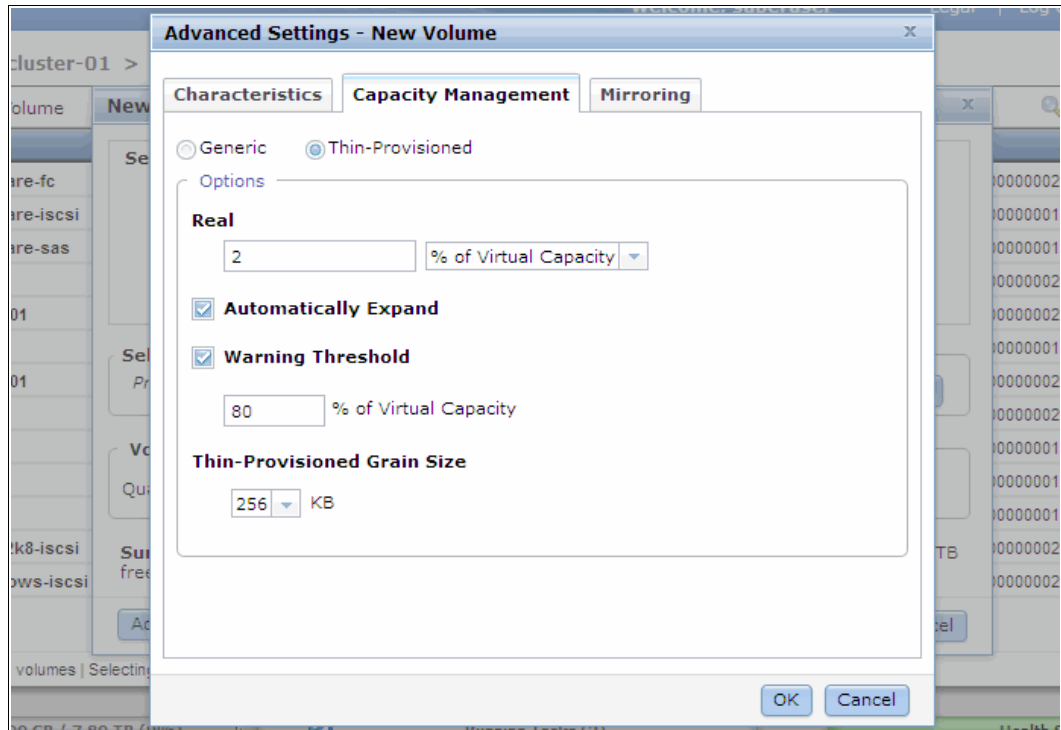
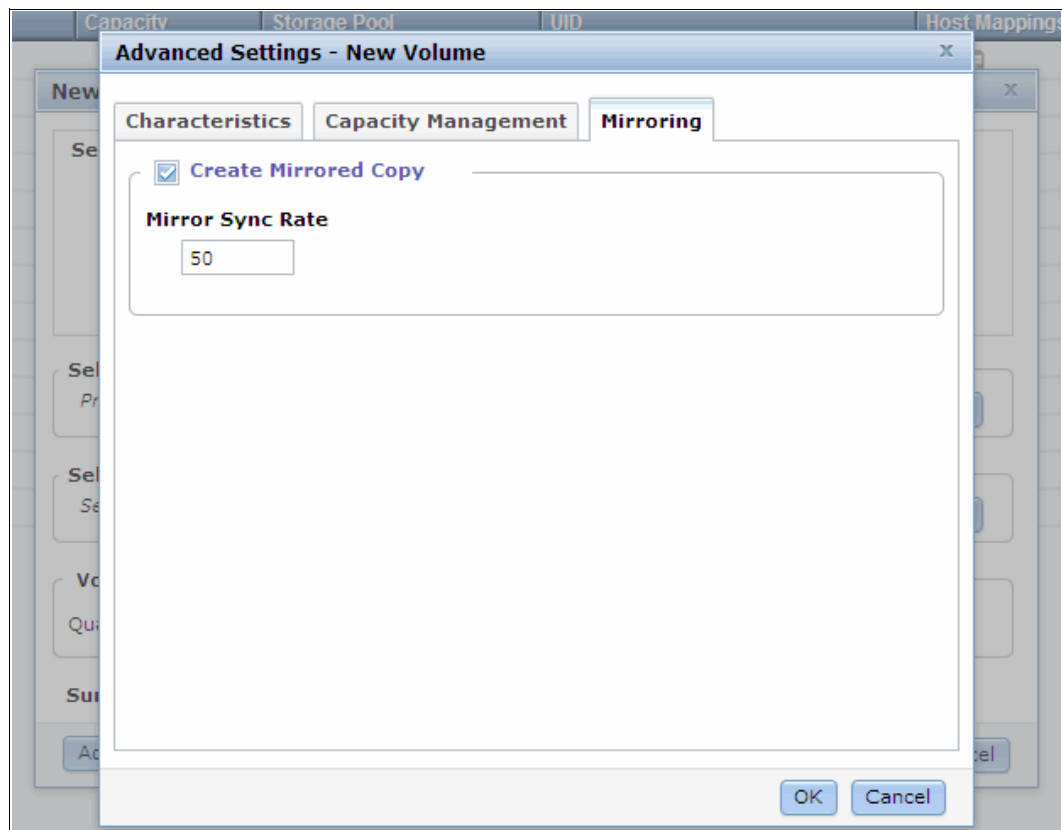

Figure 5-10 Advanced Settings: New Volume
Figure 5-15 Advanced mirroring features
Under the Volume Name field is a summary that shows that you are about to create a thin-provisioned volume, the virtual capacity is to be configured (the volume size you specified), the space that is physically allocated (real capacity), and the available physical capacity of the pool. By default, the real capacity is 2% of the virtual capacity, but you can change this setting in the Advanced options. By selecting this option, the window defaults to Capacity Management, as shown in Figure 5-10.
4. The summary shows you the capacity information about the pool. If you want to select advanced settings, click **Advanced** and then click the **Mirroring** tab, as shown in Figure 5-15.
4. The summary shows you the capacity information and the allocated space. You can click **Advanced** and customize the thin-provision settings (as shown in Figure 5-10 on page 168) or the mirror synchronization rate (as shown in Figure 5-15 on page 172). If you opened the advanced settings, click **OK** to return to the New Volume window.